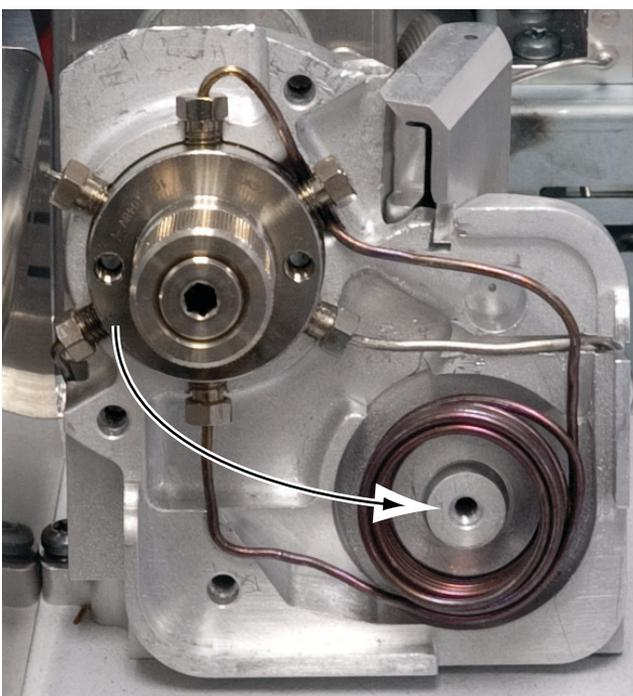

Figure 29 Rotate the sample loop into place
- 14 With the sample loop in front of the 6 port valve, connect both ends of the new sample loop to positions 1 and 4 as shown in Figure 29.
- 16** Rotate the sample loop towards the sample loop block (to the right). Fit the upper end of the sample loop over and behind connection 5 on the valve. Continue rotating the sample loop until it fits into the recessed fitting in the sample loop block as shown in Figure 29.